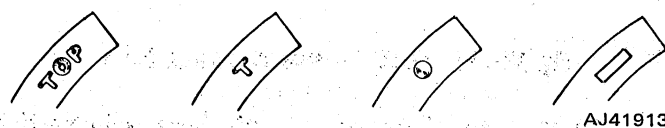

Fig. 1B-144 Typical Compression Ring Marks
(3) Install top compression ring using ring installer to expand ring around piston (fig. 1B-143).